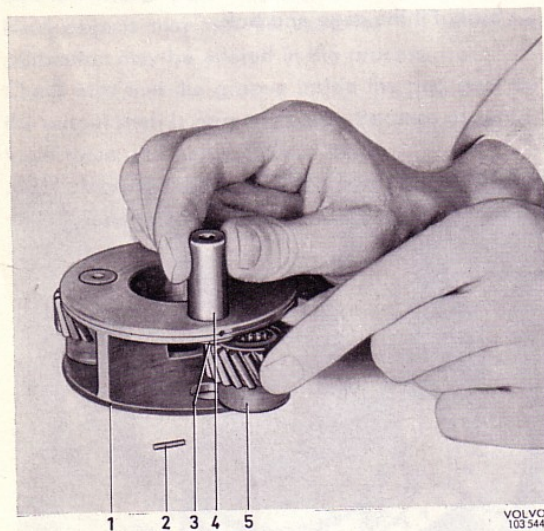

Fig. 31. Fitting the planet gears, I
1. Fit the needle bearings to be followed by the spacers. Assemble the planet gear carrier, shafts, washers and planet gears, see Fig. 31. Fit the new lock pin.